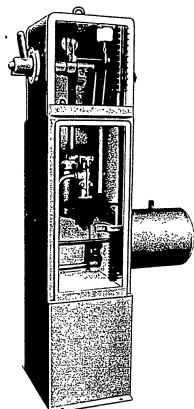

Fig. 22 - Pneumatic Control.
4) In Pneumatic control, closure is effected by the admission (through a magnetic valve) of compressed air to a servo cylinder and piston (fig. 22).